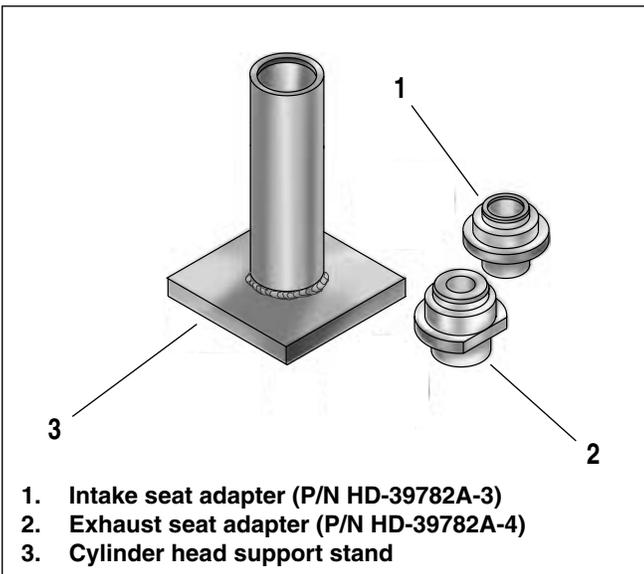
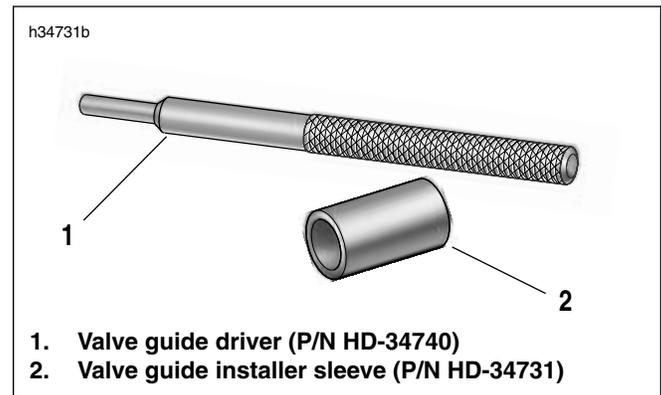

Figure 3-12. Cylinder Head Support Stand (Part No. HD-39782A)
Figure 3-15. Valve Guide Driver and Installer Sleeve
1. See Figure 3-12. Obtain the CYLINDER HEAD SUPPORT STAND (HD-39782A) and proceed as follows:
3. See Figure 3-12. See Figure 3-15. Obtain the CYLINDER HEAD SUPPORT STAND (HD-39782A), VALVE GUIDE DRIVER (HD-34740) and VALVE GUIDE INSTALLER SLEEVE (HD-34731). Proceed as follows: